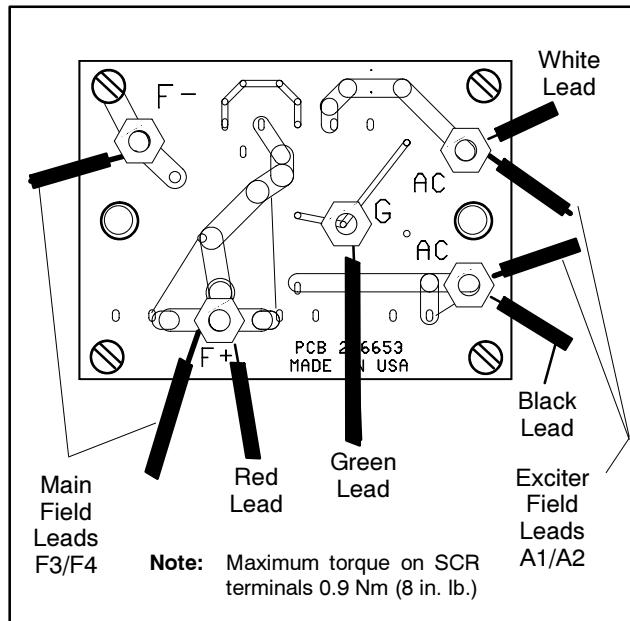

Figure 13 SCR Assembly Wiring
18. Make electrical connections to SCR assembly. When there is a choice between which lead to connect, choose the lead which does not stress the lead or terminal. See Figure 13 for wiring schematic.
Note: Place one elastic stop nut (X-101-24) on each stud. Torque all nuts to 0.9 Nm (8 in. lb.) maximum. Lead terminals must not contact any circuit board solder connections or any other studs or terminals when SCR assembly stud nuts are tightened. See Figure 13 for recommended lead positions. Use cable ties (X-468-3) as necessary to secure leads.